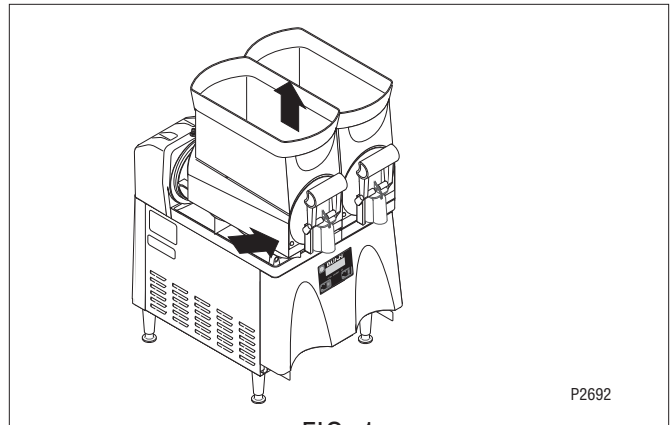

FIG. 1
2. Remove the left and right hoppers by lifting up and out. See Fig. 1.